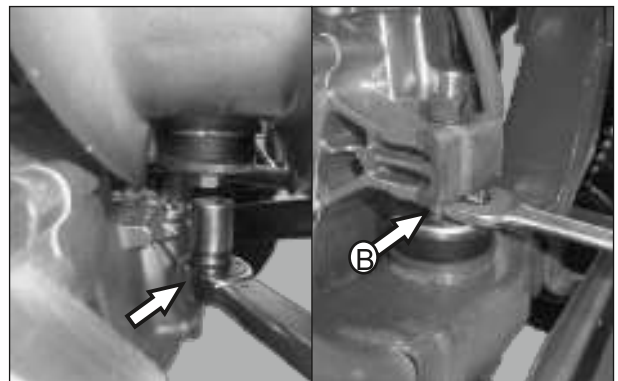

Fig. 3.14
- Loosen and remove the hexagonal flange bolt M10x1.25 front engine mounting. By holding the nut in between the engine & front engine mounting cradle (B). (Fig. 3.14)